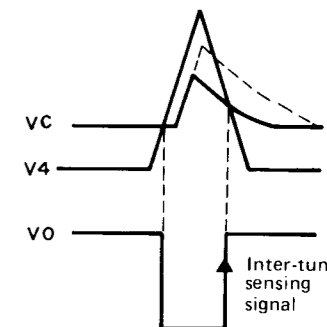

Fig. 5
6) A₄ is a comparator with hysteresis, and it compares V₄ and V_c, and makes the rise of its output V_o the inter-tune sensing signal. (Refer to Fig. 5)
Fig. 5 a. Inter-tune sensing signal